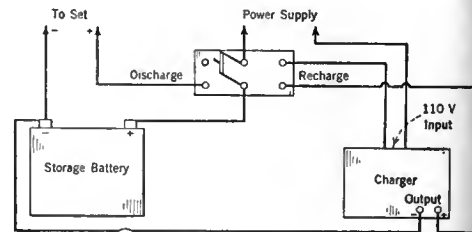

FIG. 5
**T**HE layout in Fig. 5 permits, by a simple twist of the wrist, as it were, the connection of the storage battery to the set or to the charger, as may be desired. The old "clip and plug" process has been discarded, and in its stead a double-pole double-throw switch, with permanent wiring, has been substituted. This hook-up can be used for panel or wall mounting, or may be used inside a radio table or cabinet.